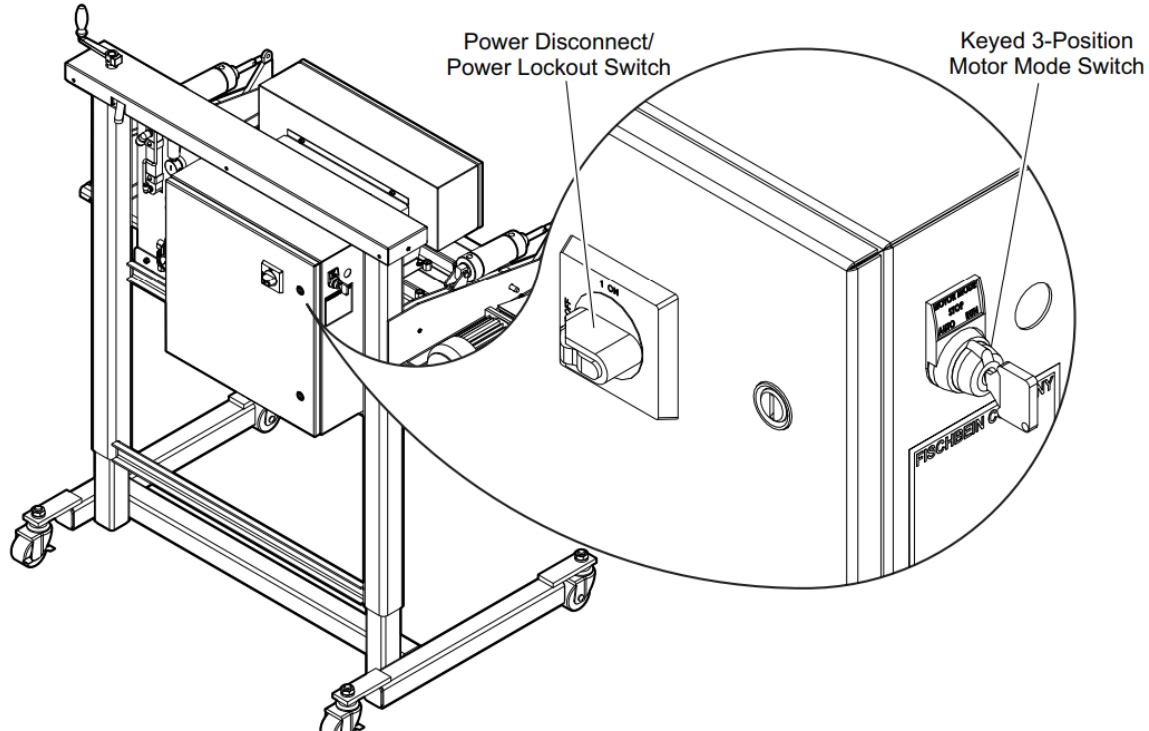

Figure 3-4: Power Disconnect/Power Lock-out Switch and 3-Position Motor Mode Switch
The machine is equipped with a three position Motor Mode Switch, located on the side of the electrical enclosure (see Figure 3-4: Power Disconnect/Power Lock-out Switch and 3-Position Motor Mode Switch). The **AUTO** position is used during normal operation of the machine. The drive motor will only activate when the swing channel begins to close. The **STOP** and **RUN** positions are provided only for technicians, to perform maintenance on the machine. The **STOP** position disables the drive motor, but will still allow the pneumatic controls to work. The **RUN** position is used to enable the drive motor only when the machine is powered. This mode does permit the drive motor to rotate, when the swing channel is open.
**WARNING:** WHILE PERFORMING MAINTENANCE TO THE MACHINE, ALWAYS TURN "OFF" AND LOCK OUT THE ELECTRICAL SUPPLY (SEE FIGURE 3-4: POWER DISCONNECT/POWER LOCK-OUT SWITCH AND 3-POSITION MOTOR MODE SWITCH). OPERATE THE MACHINE WITH THE DESIGNED ELECTRICAL SERVICE. NEVER ALTER THE ELECTRICAL SYSTEM OF THE MACHINE.